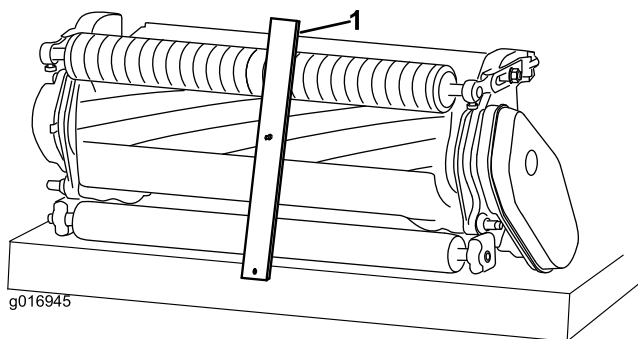

Figure 11
3. Hook the screw head onto the cutting edge of the bedknife and rest the rear end of the bar onto the rear of the roller (Figure 11).